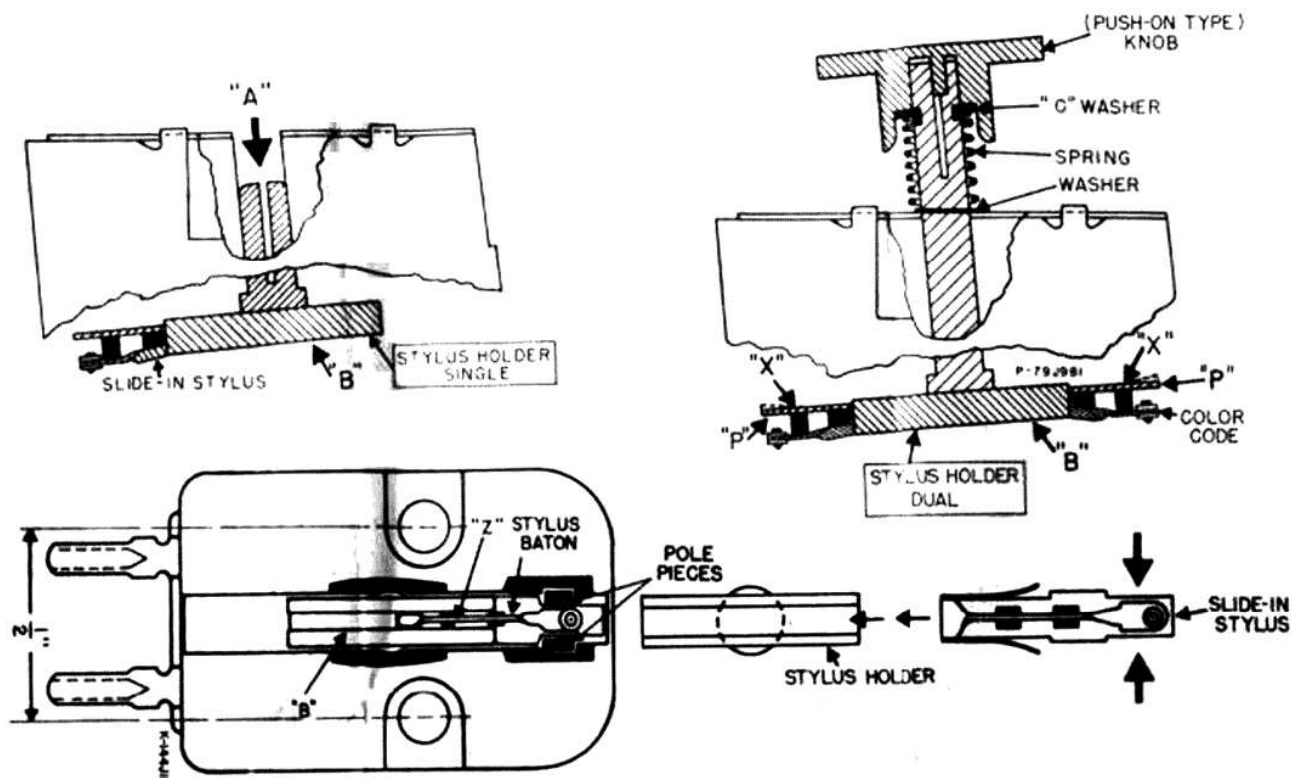

FIG. 2. CARTRIDGE AND STYLUS DETAIL
The outline drawing of Fig. 2 shows the pick-up cartridge viewed from the bottom with dimensions for the screw mounting centers. The cartridge should be mounted with its top surface parallel to the top of the tone arm in order that the stylus will contact the record at the proper angle.
For mounting the dual cartridge, a  $\frac{1}{8}$ -inch hole must be drilled through the top of the tone arm for the stylus assembly shaft to pass through. This hole must be accurately placed. This is accomplished by removing the dual stylus assembly as described in "Stylus Assembly Removal," and mounting the cartridge in the tone arm. A marking tool that will fit through the cartridge center hole (Fig. 2 "A") will scribe a mark on the tone arm in the proper place.
Push stylus holder out and twist sufficiently to render Channel "B" accessible from both ends. Grasp the slide-in stylus at the arrows (Fig. 2) by your thumb and forefinger. Insert the slide-in stylus into Channel "B," being sure it is in all the way. Push stylus holder back into the slot in the cartridge by thumb pressure on Channel "B." The end of the channel with the small hole drilled in it should be used for the .001 styli, thus aligning the shaft keyway so the knob will point out the proper stylus (Dual only).
**SINGLE:**—Insert a small nail or equivalent tool into the hole marked "A" in Fig. 2 and push the stylus holder out of the cartridge.
**SINGLE:**—Place round, split part of stylus holder in the hole in the bottom of the cartridge. Press firmly on part "B," shown in Fig. 2, to seat holder in the slot provided for it in the cartridge. Make sure the holder is in as far as it will go.
The stylus must be centered exactly between the pole pieces for proper operation. Also, the stylus baton must not touch the stylus holder channel. Should the stylus be bent off center, it may be brought into proper alignment by the slight pressure of a thin knife inserted between Channel "B" and the stylus baton at point "Z" (Fig. 2).
To take up any lateral play of the slides at "P-P" (Fig. 2), bend the slides up (away from stylus tip) slightly at "X-X" with tweezers. This will allow the slides at "P-P" to make contact with vee slots in the cartridge body, thus keeping the slides aligned.